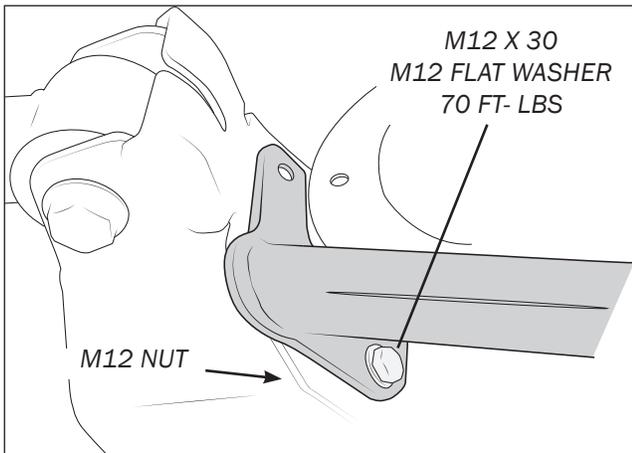

Figure 41
- d. Drill the remaining hole in the control arm bracket and treat for corrosion, then install the remaining bolt (fig. 41).